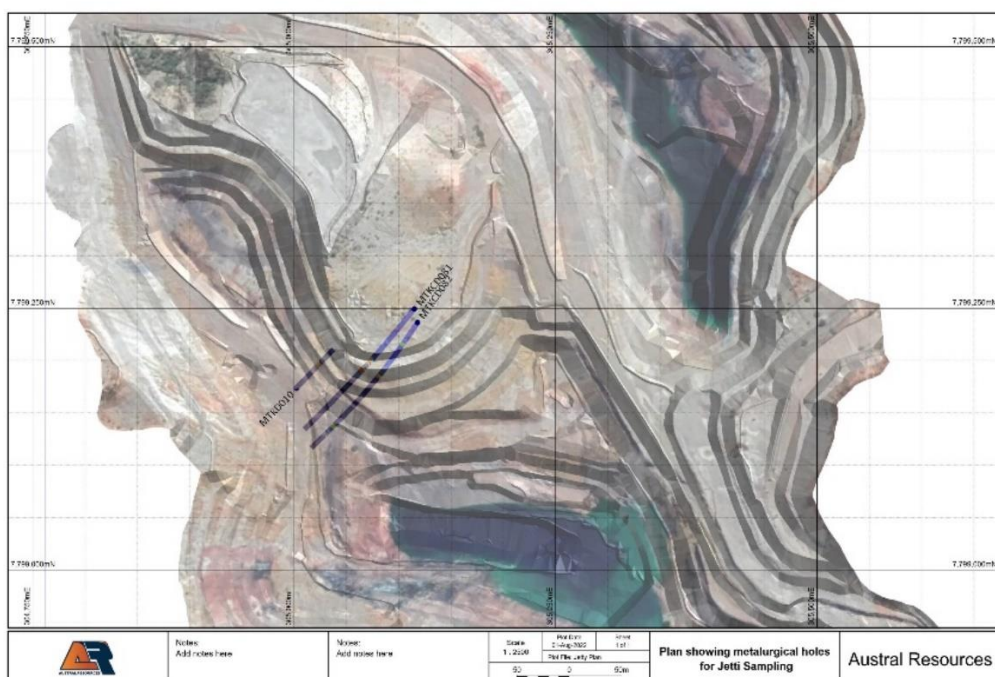
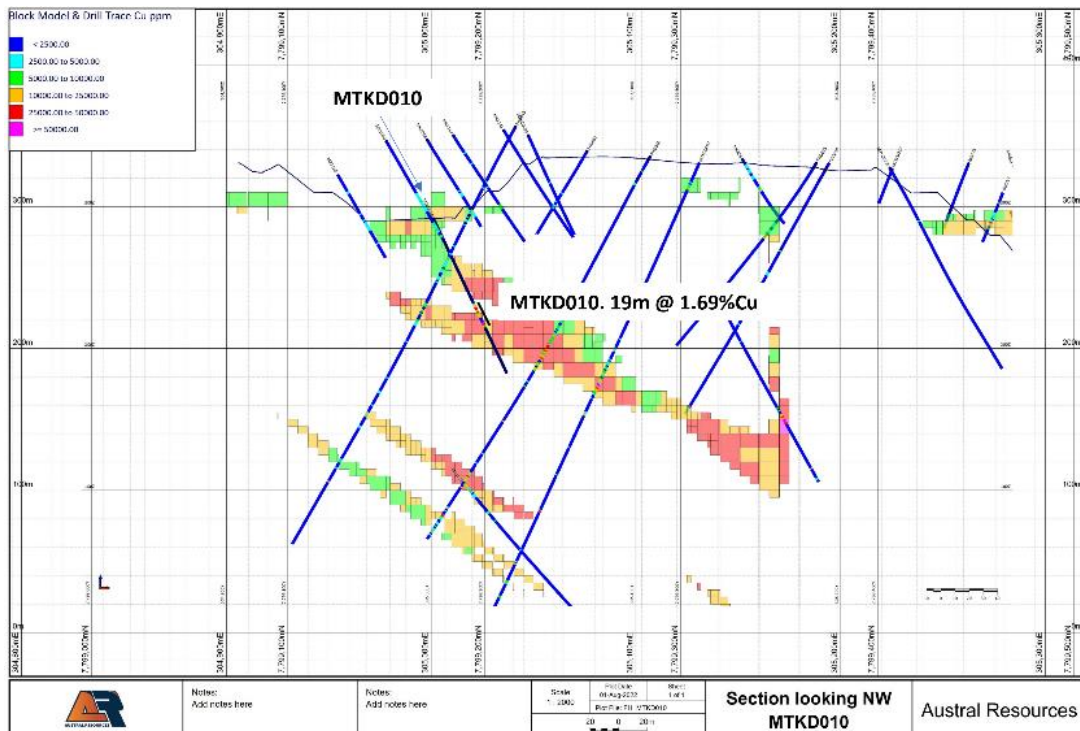

Figure 3. Plan view of Flying Horse 2022 drilling hole traces.
Figure 4. Flying Horse Section through MTKD010.
Austral Resources has completed drilling a total of 3 diamond drill holes for 712m at Flying Horse. A plan view of collar locations and the current Flying Horse open pit topography is displayed in Figure 3, with sections along the lines of each drillhole displayed in Figures 4, 5 & 6. Drillhole design details are listed in Table 1.
- MTKD010. Refer Figure 4